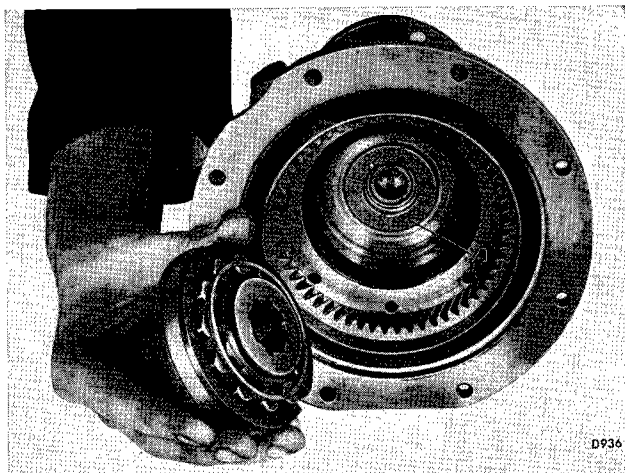

Fig. 24. Fitting uni-directional clutch to annulus
Refit the thrust washer (71) and uni-directional clutch (Fig. 24) transferring the clutch direct from the assembly tool. Fit the brass oil thrower ring (68) and secure with circlip (67).